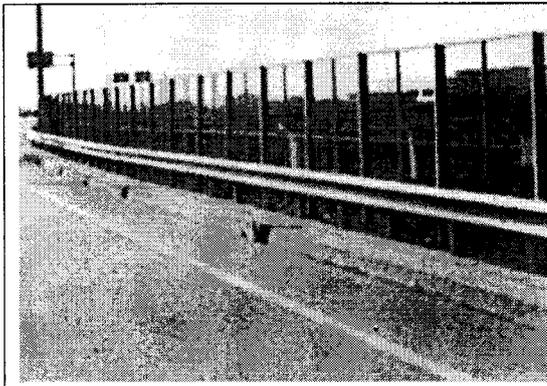

Fig.7
- Do you use fences on bridge roadside like Fig.7?